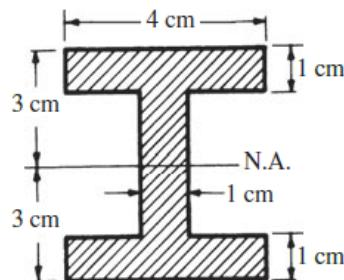

Figure 3(b)/Rajah 3(b)
- CLO 2 (b) A steel cantilever beam 6m in length is subjected to a concentrated load of 1200 N acting at the free end of the bar. The beam with cross section shown Figure 3(b). *Rasuk julur yang mempunyai panjang rasuk 6m dikenakan beban 1200N di hujung beam yang bebas. Keratan rentas di tunjukkan seperti Rajah 3(b)*